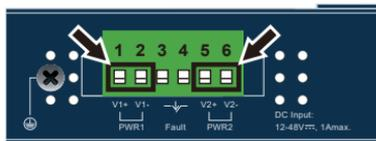

Figure 3-1: ICS-2200T Upper Panel
1. Insert positive/negative DC power wires into **Contacts 1 and 2** for **Power 1**, or **Contacts 5 and 6** for **Power 2**. Figure 3-1 and 3-2 show PWR1 and PWR2 of the Industrial Serial Server.